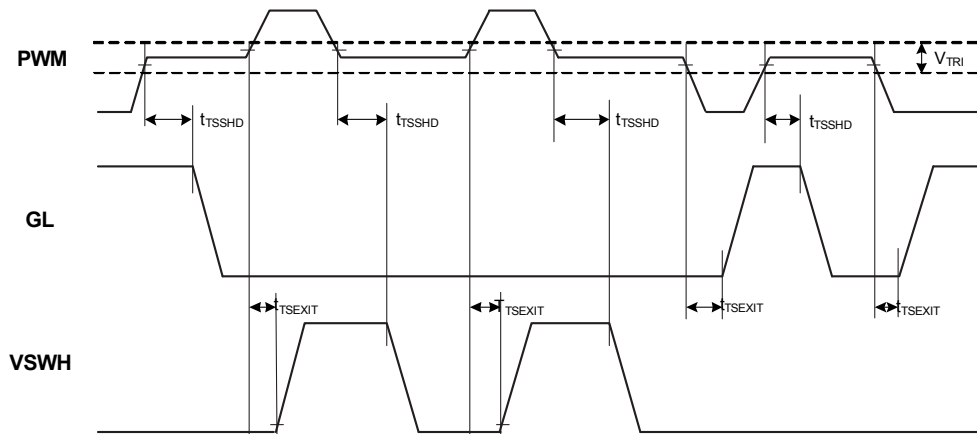

Figure 2. PWM Tri-State Hold Off and Exit Timing Diagram
**Note:** See Figure 2 for propagation delays and tri-state window.